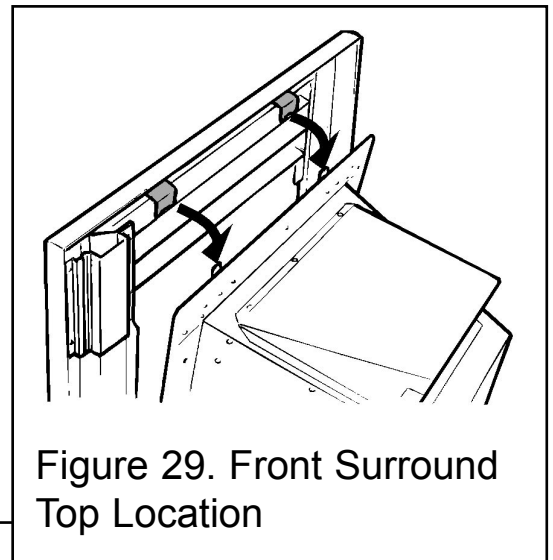

Figure 29. Front Surround Top Location
12.2.2 Place the front surround against the fireplace front surface so that the two retaining plates at the back of the surround are directly above the two upper retaining brackets at the top of the convection box. Lower the surround unit making sure that the retaining plates locate fully over the brackets on the convection box (See figure 29).